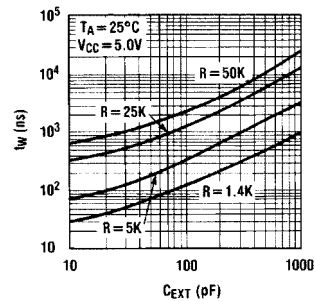

FIGURE 1.
- The pulse width is essentially determined by external timing components RX and CX. For CX < 1000 pF see Figure 1 design curves on tW as function of timing components value. For CX > 1000 pF the output is defined as: